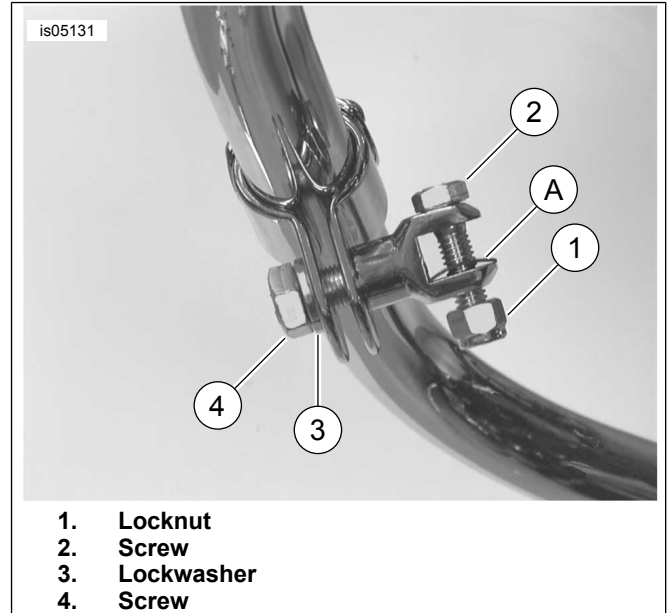

Figure 1. Installing Mounting Hardware (footpeg not shown)
2. See Figure 1. Pull the 3-piece clamp tabs together with a clamp, or clamping pliers, and install the 1/2 inch diameter screw (4), lockwasher (3), and footpeg mount as shown. Tighten screw securely.
3. Install the footpegs (purchased separately) using the 3/8 inch diameter screws (2), spring washers (A) and locknuts (1) included in kit. Make sure the spring washer (saved from original hardware kit Part Number 50964-98) is positioned inside the footpeg mount with the square edge towards the inside of the mount. Tighten locknuts to 26 N-m (19 ft-lbs).